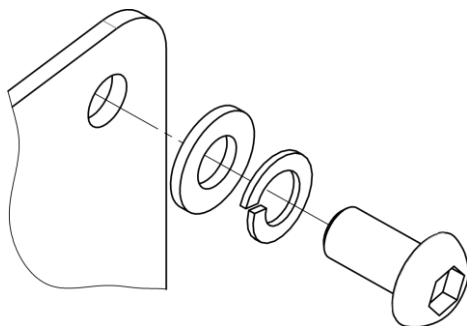

Figure 3. Washers on the screw
- 5.4.2. Connect the units with four plates. A plate requires four screws, each with a washer and a lock washer on it (fig. 3). Fix the screws tightly.
- 5.5.1.1 Attach the left and the right legs to the base unit. A leg requires four screws, each with a washer and a lock washer on it (fig. 3). Fix the screws tightly.
- 5.5.2.2 Connect the units with four plates. A plate requires four screws, each with a washer and a lock washer on it (fig. 3). Fix the screws tightly.
5.5.3.2 Connect the units with four plates. A plate requires four screws, each with a washer and a lock washer on it (fig. 3). Fix the screws tightly.